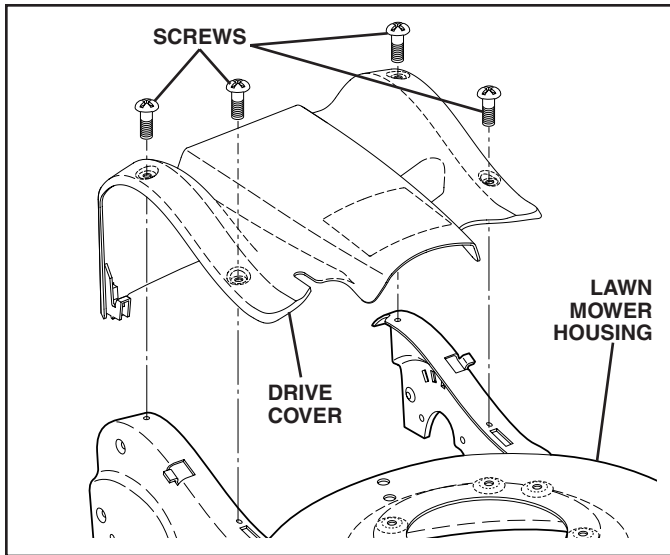

FIG. 18
TO REMOVE DRIVE BELT (See Figs. 18 thru 21)
2. Remove screws retaining drive cover and remove drive cover from lawn mower housing (See Fig. 18).
TO REPLACE DRIVE BELT (See Figs. 18–21)
11. Reattach drive cover with screws previously removed (See Fig. 18).